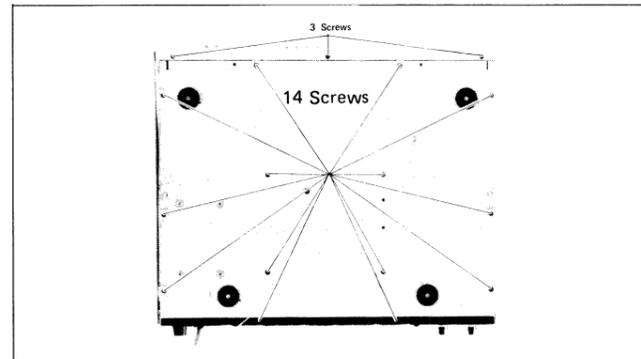

Figure 3-2
1. Turn the set over and remove the 14 screws retaining the bottom lid, then the bottom lid can be detached by holding it up. (Refer to Figure 3-2)
2. Remove the 5 screws and the push rivet retaining the front panel, then the front panel can be detached by pulling it toward you. (Refer to Figures 3-2 and 3-3)